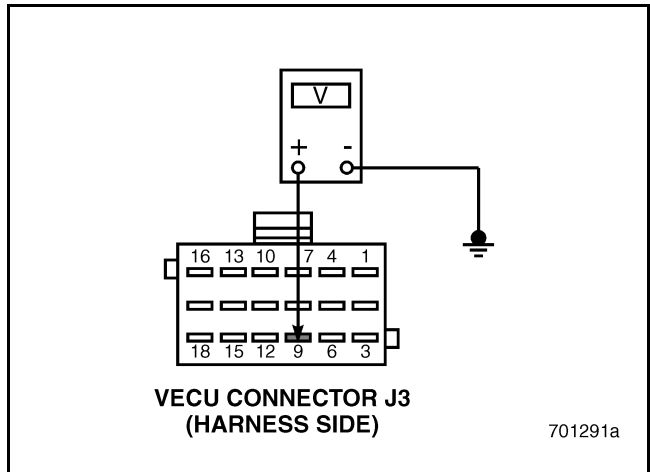

Figure 582
4. Measure the voltage between VECU connector J3 pin 9 and a good ground (see Figure 582).